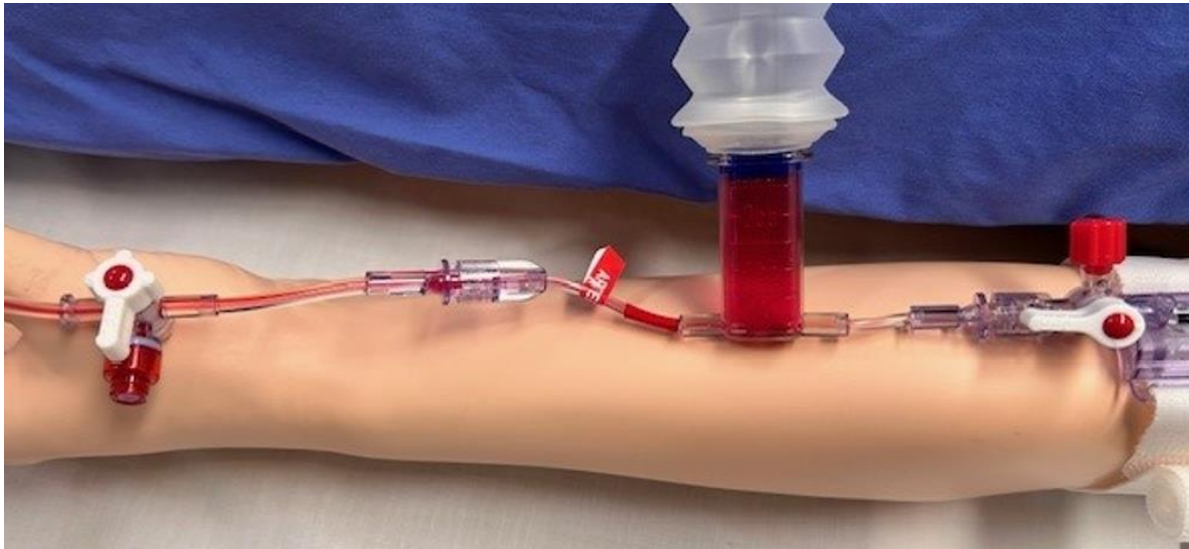

Figure 10.
6. Now the blood can be returned from the plunger to the patient. To do this, turn the three-way tap **closest to the insertion site 'OFF' to the sampling port to prevent blood squirting out** from sample port when returning blood with pressure. (See Figure 10 below)